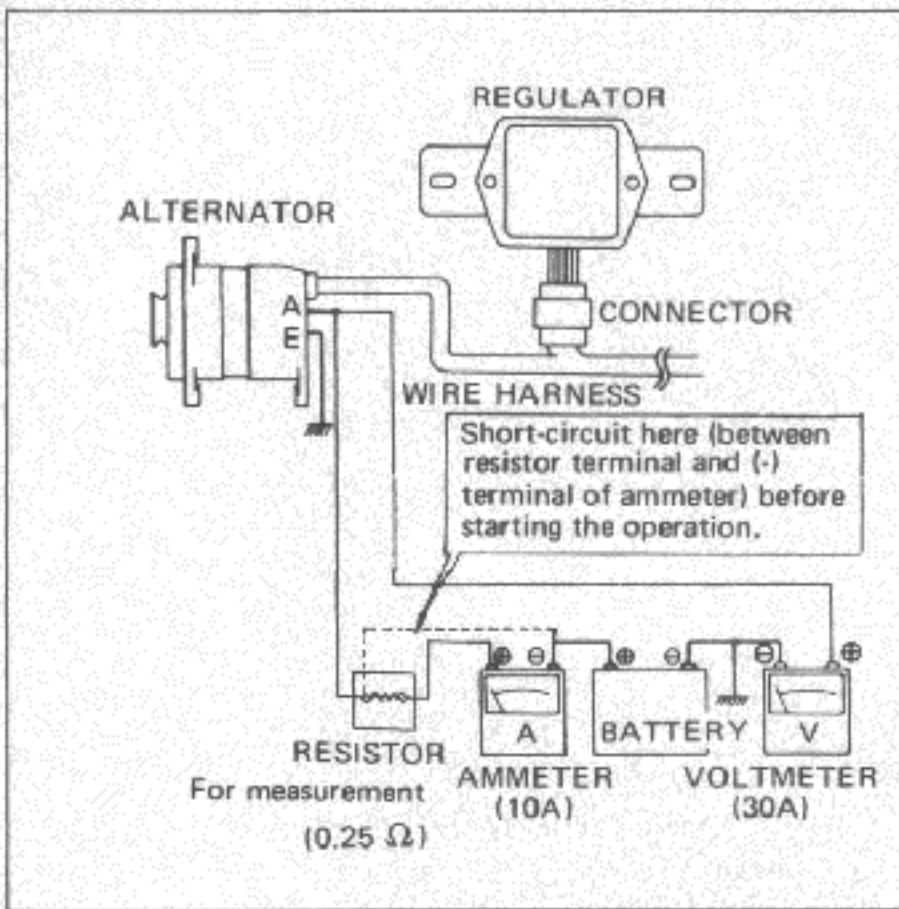

Fig. EE-52 Regulating voltage measuring circuit with regulator and alternator mounted on the vehicle
1. Connect a voltmeter, ammeter, fully charged battery and resistor as shown in Figure EE-52. Install the regulator perpendicularly by facing the connector downward.
3. Before starting the operation, be sure to short-circuit the line between terminal of the resistor for voltage measurement and \ominus terminal of the ammeter. Pointer of the ammeter may deflect rapidly and reversely due to discharge current flowing from the battery resulting damaged ammeter. (See Figure EE-52.)